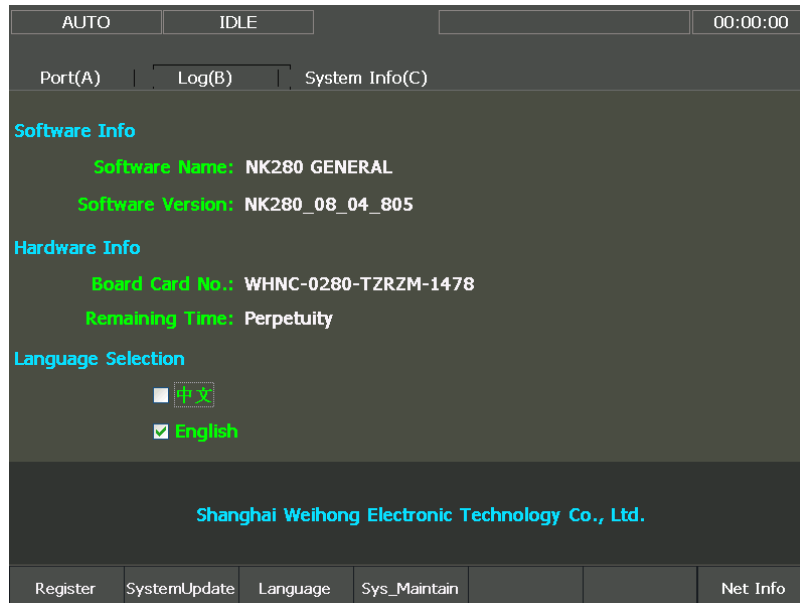

Fig. 3-53 System info screen
As shown in Fig. 3-53, view the related information (including CNC software information and CNC hardware information) of NcStudio in [System Info (C)] screen of [System] function area. Pressing letter key C will enter [System Info] function screen.
- 1) Learn the info of board card no. in [System Info (C)] of [System]. See Fig. 3-53.